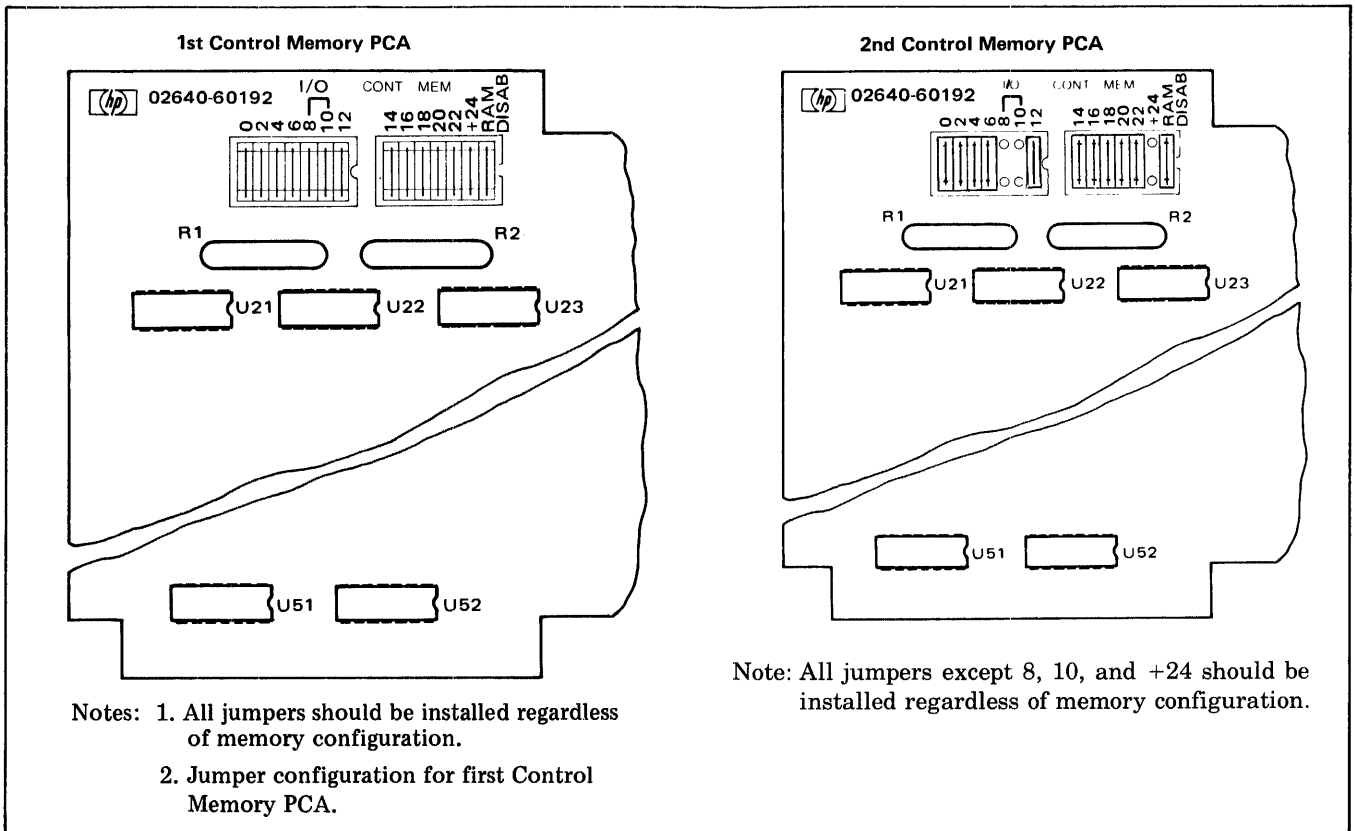
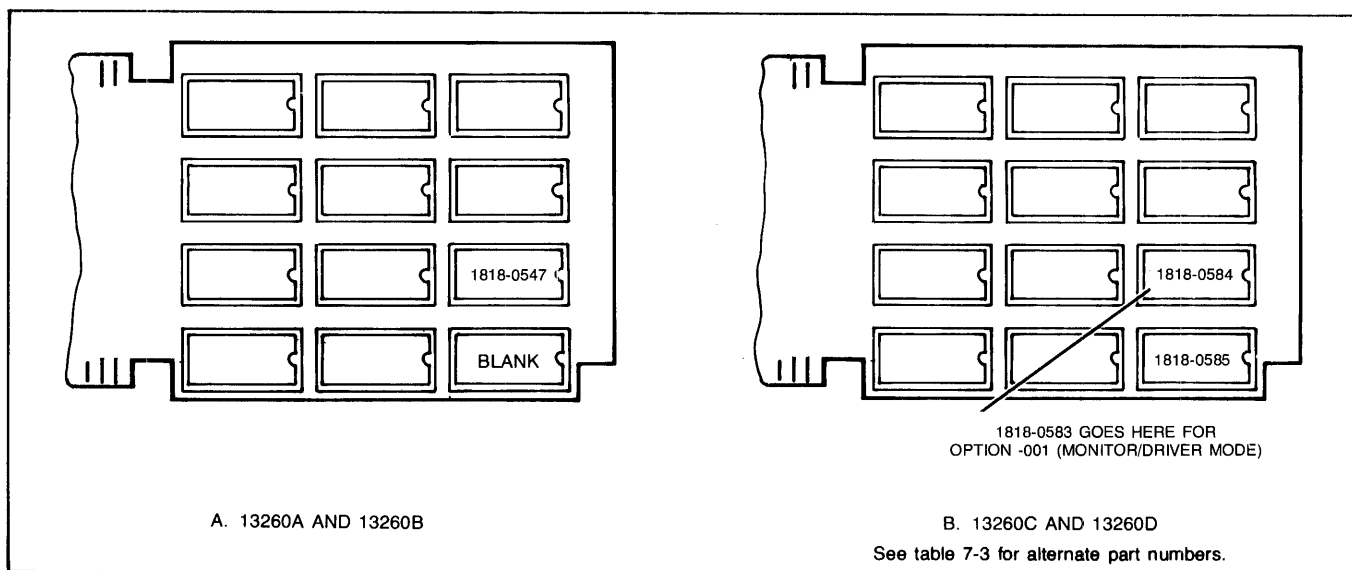

Figure 7-8. Control Memory PCA Jumper Socket Location
Figure 7-13. Control Memory PCA Data Comm Firmware IC Locations
7. ( ) Remove IC's, if present, from DATA COMM sockets 20 and 22 of Control Memory PCA (see figure 7-13).
9. ( ) Carefully insert ROM(s) contained in accessory package into DATA COMM socket(s) so that ROM pin 1 is at upper right corner of socket (see figure 7-13). Also, be sure that all jumpers are installed as shown in figure 7-8, "1st Control Memory PCA."